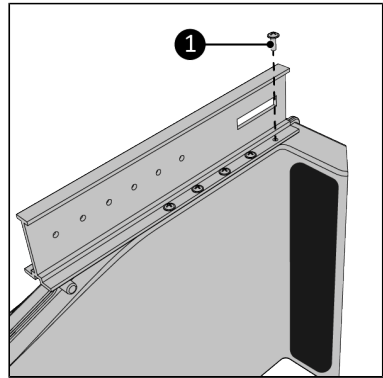

Figure 70.
- Screw the main rail to the Way-out using the ten 3,5 x 10 mm screws (Figure 70, pos. 1). Make sure all screw holes match up.